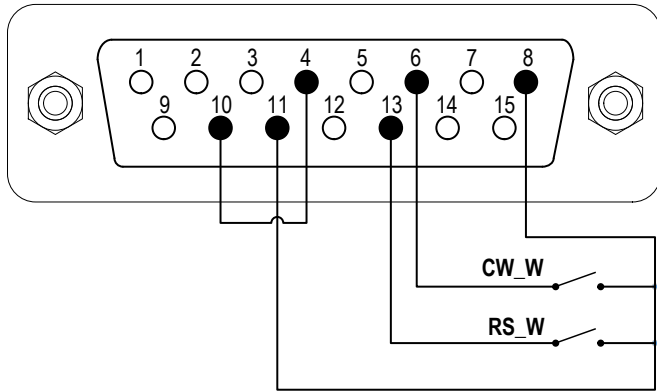

Figure 22. Logic Level 2 Control with Internal 12V Power Source
- 1) Power off the pump. Wire the DB15 connector as shown in Figure 22